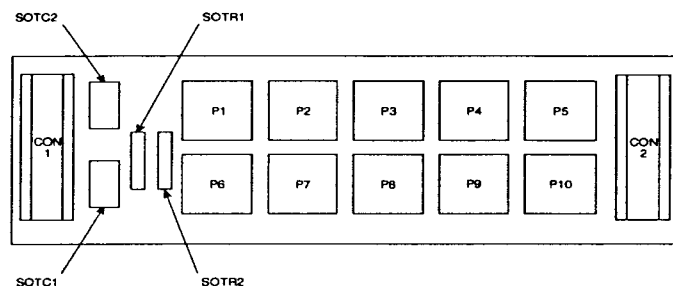

Figure 4.1 – Preset Board Component Layout
- 5) On the preset board, check the potentiometers are in the factory set condition as described in Table 4.1. Refer to Figure 4.1 for the location of these potentiometers on the preset board.